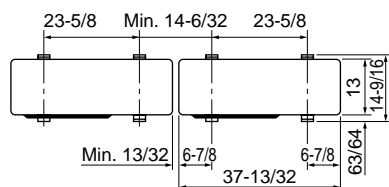

Fig. 3-1
- Be sure to install the unit in a sturdy, level surface to prevent rattling noises during operation. (Fig. 3-1)